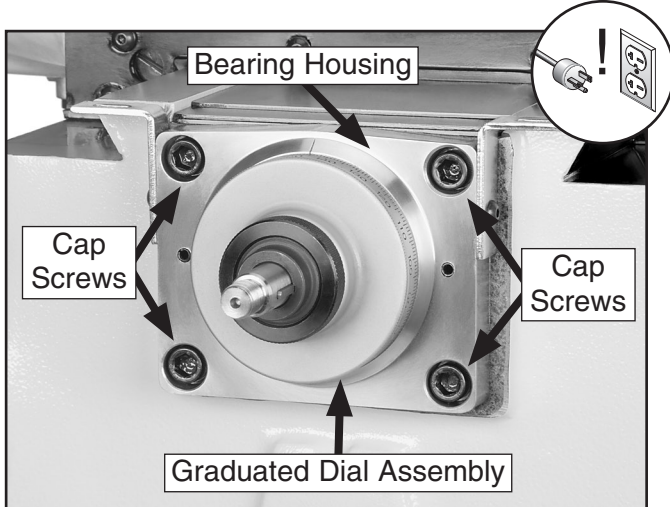

Figure 65. Cross feed graduated dial assembly and bearing housing with ball handle removed.
4. Remove the four cap screws shown in **Figure 65** that hold the bearing housing to the saddle.